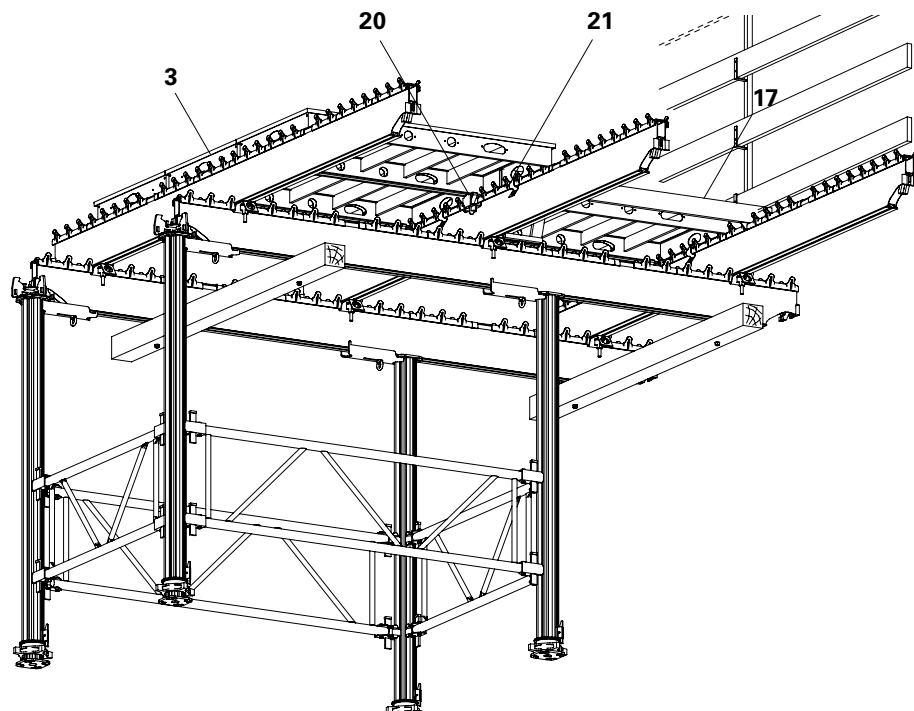

Fig. A9.05
4. Mount Guardrail Posts SGP and hand-rail boards as anti-fall protection. (Fig. A9.05)